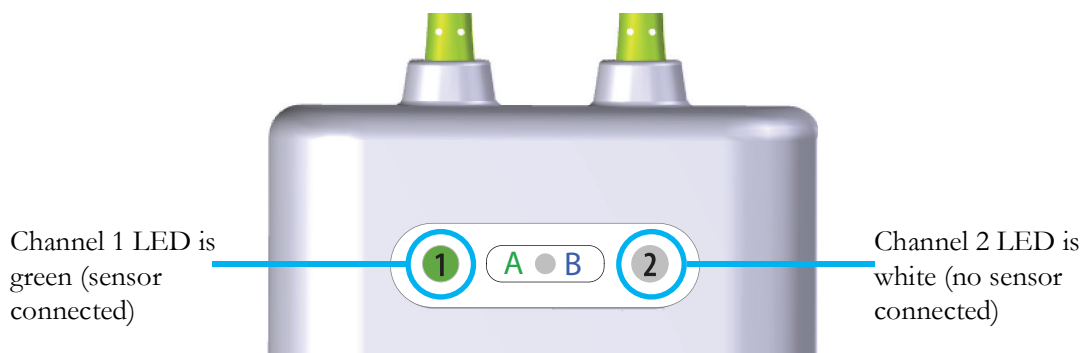

Figure 13-14 Connecting a sensor to the FORE-SIGHT ELITE oximeter module – channel status LED
- 6 Verify that the channel status LED indicator on the FORE-SIGHT ELITE oximeter module changes from white to green when the sensor is fully connected. See figure 13-14.